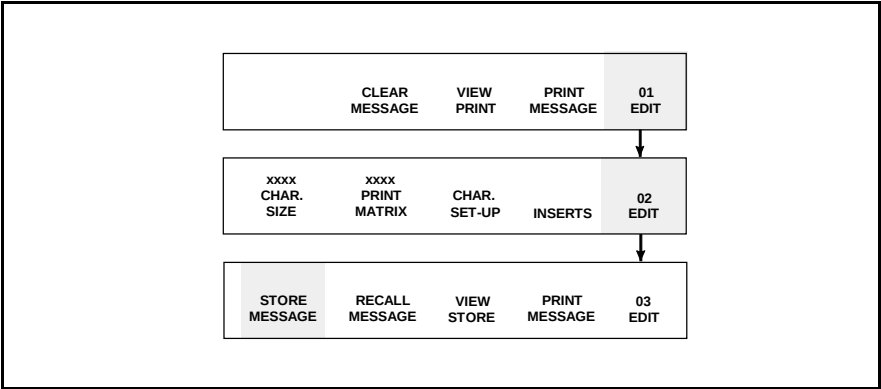

Figure 6-58. Accessing Frame <03 EDIT>
1. Begin in Frame <03 EDIT>. Refer to Figure 6-58.